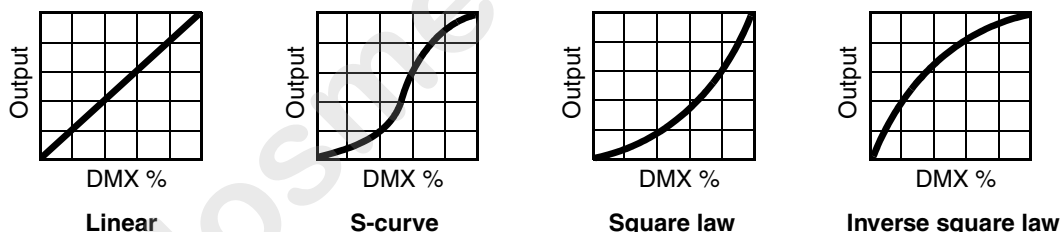

Figure 5: Dimming curve options
- **DIMMER CURVE** provides four dimming options (see Figure 5):